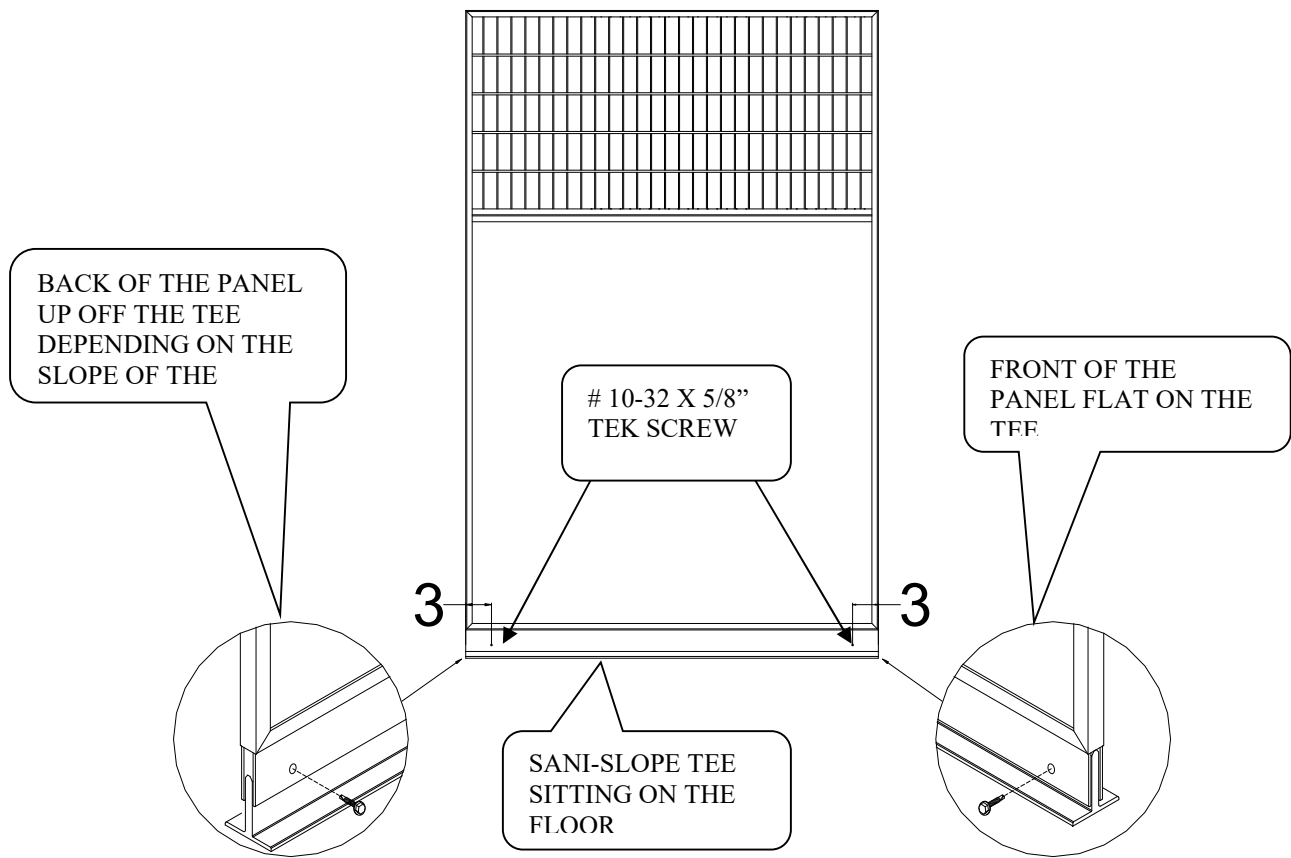

Figure 8
1. Using a hammer tap all the “Sanislope T’s” on the front end of the run, back until they are flush with the front edge of the division panel as shown in Figure 8.
2. While the panels remain level, apply downward pressure to the Sanislope T, drill a 11/64” hole at least 1/2” deep, through the “Sanislope “H” at the bottom of the division panels into the “Sanislope T”, as shown in Figure 8. After each hole is drilled, drive a #10-32 x 5/8” TEK screw into the hole. Spraying a little WD40 into the hole before driving the screws will simplify the process. (**NOTE:** if your system is using the Silvis Seal, it is the downward pressure on the Sanislope Tee that ensures the Silvis Seal performs properly.)
3. Repeat step D-2 for all screw locations shown on Figure 8 for both division panels.